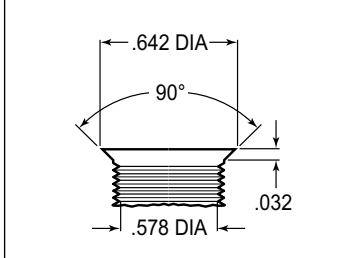

Figure 3. Drill and Tap Detail
**NOTE:** Some spindles in this year range may require the following modifications (reference Figure 1 and Figure 3): Top anchor pin hole (Z) must be drilled and tapped to the dimensions as outlined in Figure 3. The lower bolt hole (Y) in the spindle used to mount the new caliper bracket, and the mating steering arm hole, must be enlarged to .50" by drilling. It is recommended these modifications be performed by a qualified machinist.
•Install wheel studs (23) into the hub of the rotor (9), Photo 1. Apply red *Loctite*® 271 to the threads and torque to 77 ft-lbs. **NOTE:** There are two five lug patterns in the hub (5 x 4.50 and 5 x 4.75). Ensure the correct hub stud pattern is being used to fit the wheel application.
•Pack the large inner bearing cone (7) with high temperature disc brake bearing grease (available from your local auto parts store) and install into the backside of the hub (9), Photo 2.
•Install the grease seal (8) by pressing into the backside of the hub (9), flush with the end of the hub.